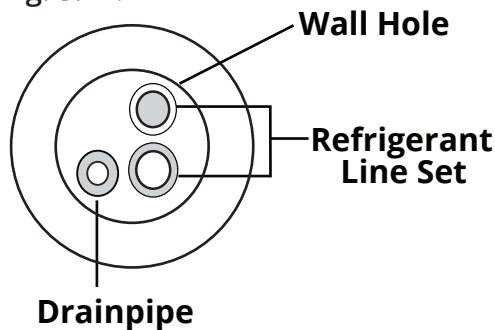

Fig. 5.21
- Position the drainpipe and line set so they pass through the wall hole in the orientation shown below in Fig. 5.21.